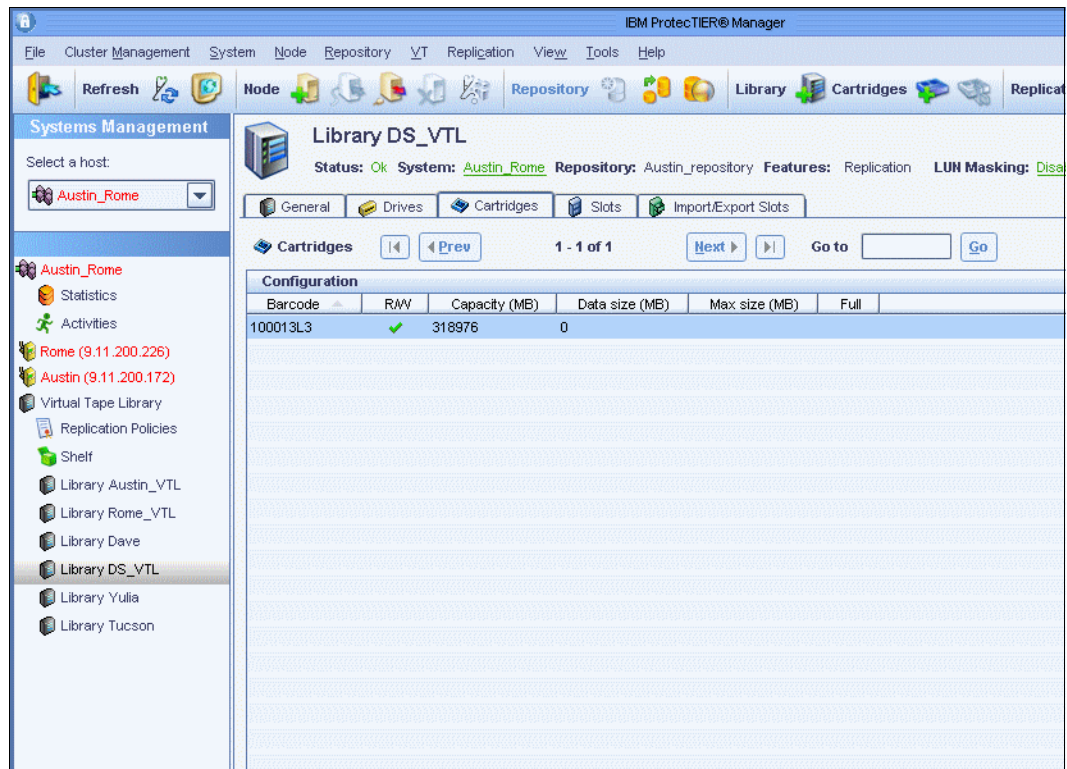

Figure 10-143 Visibility was moved to library Italy Account
- Click **OK**. The visibility of the tape is switched to the destination library Italy Account. You can select the library **Italy Account** from the Services pane, then select the **Cartridge** tab to check the visibility (Figure 10-143).